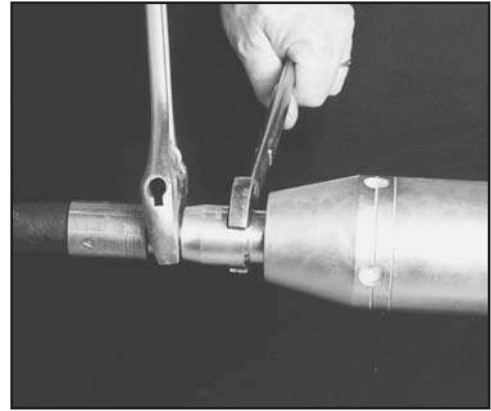

FIG. 37: REMOVE WHIP HOSE
2. Using two wrenches remove the whip hose from the control stud (see Fig. 37).